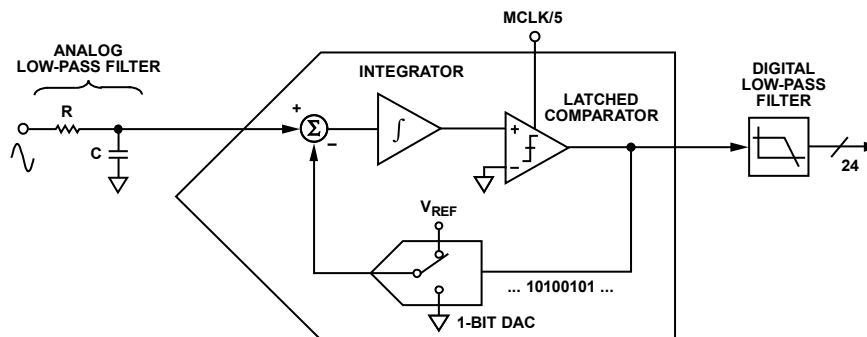
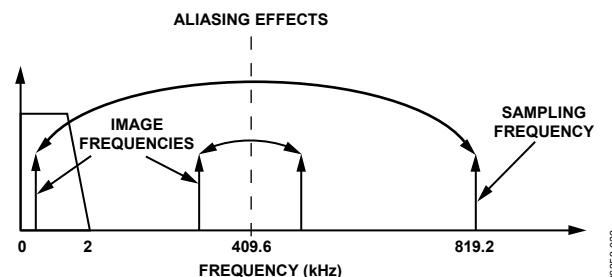

Figure 44. First-Order  $\Sigma$ - $\Delta$  ADC
Figure 45. ADC and Signal Processing in Current Channel Outline Dimensions
For simplicity, the block diagram in Figure 44 shows a first-order  $\Sigma$ - $\Delta$  ADC. The converter is made up of the  $\Sigma$ - $\Delta$  modulator and the digital low-pass filter (LPF).
Figure 44 also shows an analog LPF (RC) on the input to the modulator. This filter is present to prevent aliasing, an artifact of all sampled systems. Aliasing means that frequency components in the input signal to the ADC that are higher than half the sampling rate of the ADC appear in the sampled signal at a frequency below half the sampling rate. Figure 45 illustrates the effect. Frequency components (the black arrows) above half the sampling frequency (also known as the Nyquist frequency, that is, 409.6 kHz) are imaged or folded back down below 409.6 kHz. This happens with all ADCs, regardless of the architecture. In the example shown, only frequencies near the sampling frequency (819.2 kHz) move into the band of interest for metering (40 Hz to 2 kHz). This allows the use of a very simple LPF (low-pass filter) to attenuate high frequency (at approximately 819.2 kHz) noise and prevents distortion in the band of interest.
For conventional current sensors, a simple RC filter (single-pole LPF) with a corner frequency of 10 kHz produces an attenuation of approximately 40 dB at 819.2 kHz (see Figure 45). The 20 dB per decade attenuation is usually sufficient to eliminate the effects of aliasing for conventional current sensors. However, for a di/dt sensor such as a Rogowski coil, the sensor has a 20 dB per decade gain. This neutralizes the -20 dB per decade attenuation produced by one simple LPF. Therefore, when using a di/dt sensor, care should be taken to offset the 20 dB per decade gain. One simple approach is to cascade two RC filters to produce the -40 dB per decade attenuation needed.